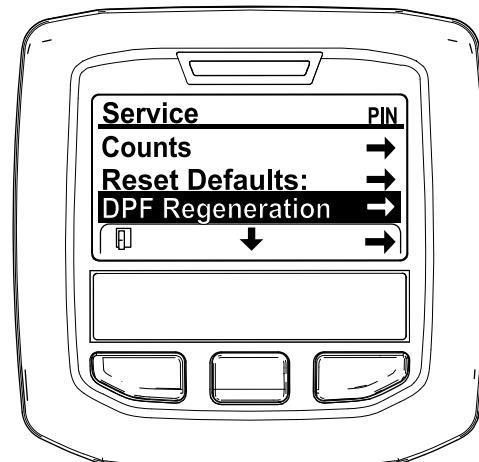

Figure 33
- In the SERVICE MENU, press the middle button until the DPF REGENERATION options displays, and press the right button to select the DPF REGENERATION option (Figure 33).